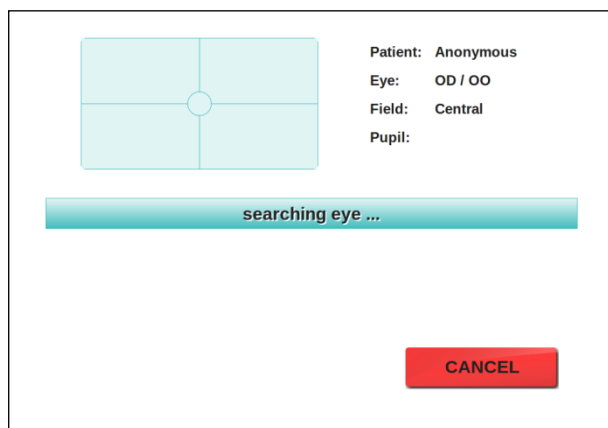

Figure 10 - Eye search in progress
- Move the optical head to locate the patient's pupil (see Figure 10);